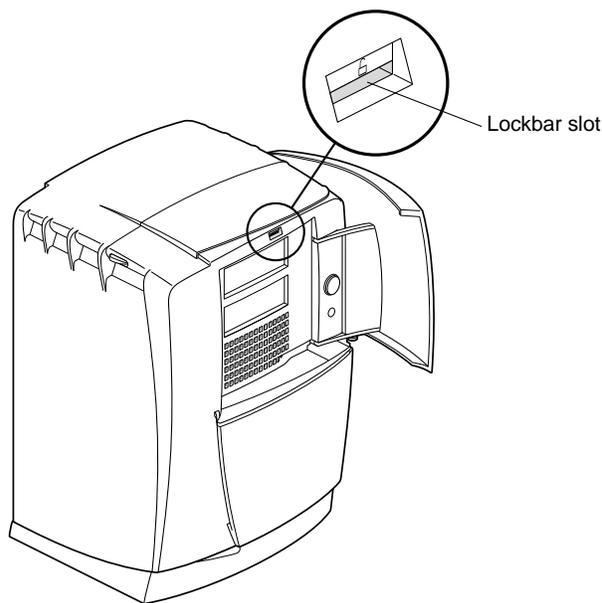

Figure 1-16 Locating the Lockbar Slot
2. Locate the lockbar slot, as shown in Figure 1-16.